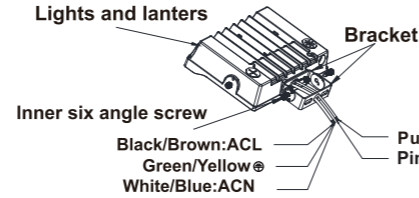

figure 6.5
Step 2: Finish the wire connection according to the right mode of connection (pay attention to positive wire, negative wire, and ground wire).(figure 6.5)